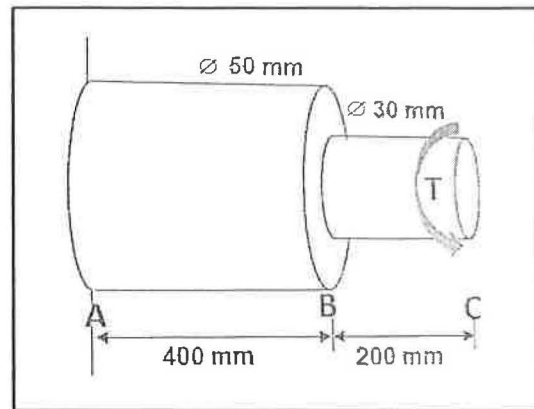

Figure 4
4. A solid circular shaft of a series of compound made from steel is shown in Figure 4. Length AB and BC are 400mm and 200mm, diameter AB and BC are 50mm and 30mm. If torque of 200 Nm is imposed at end of BC. Given $G = 70 \text{ GN/m}^2$